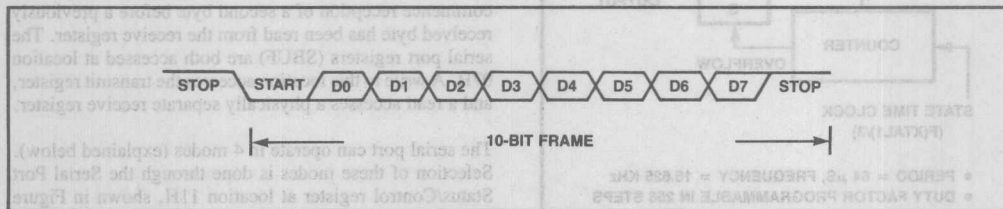

Figure 2-25. Serial Port Frame — Mode 1
10-bit frames are transmitted through TXD, and received through RXD: a start bit (0), 8 data bits (LSB first), and a stop bit (1). If PEN = 1 then an even parity bit is transmitted instead of the eighth data bit. This mode is the one commonly used for CRT terminals. The data frame for Mode 1 is shown in Figure 2-25.